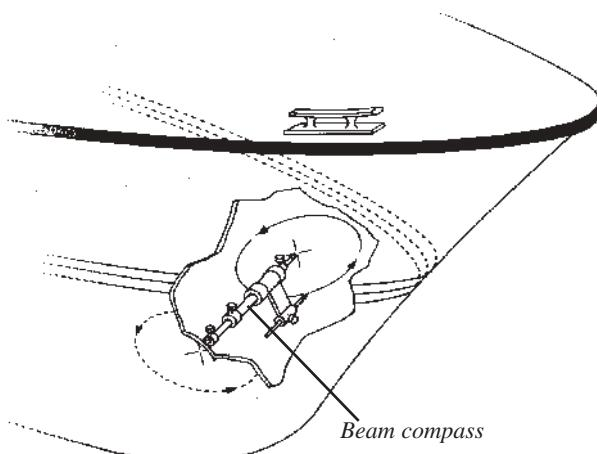
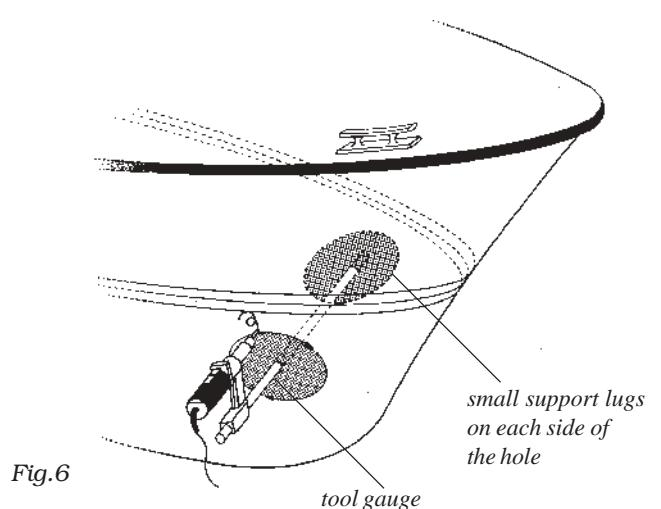

Fig.1
Fig.6
3. Draw the picture of the entire tunnel hole on the hull interior (fig.1) to see exactly where the tunnel is going to be positioned. This is important to find out the space that will be left under the tunnel and also that the bow thruster gets enough space vertically.
4. When the tunnel position has been measured the installation can start. Drill one hole Ø 25mm on each side of the hull where the drawing tool's compass tips show. See fig. 1 & 6. Guide the tool gauge, from the outside, through the hull and cut the tunnel hole using the installation cutter. See fig. 6.